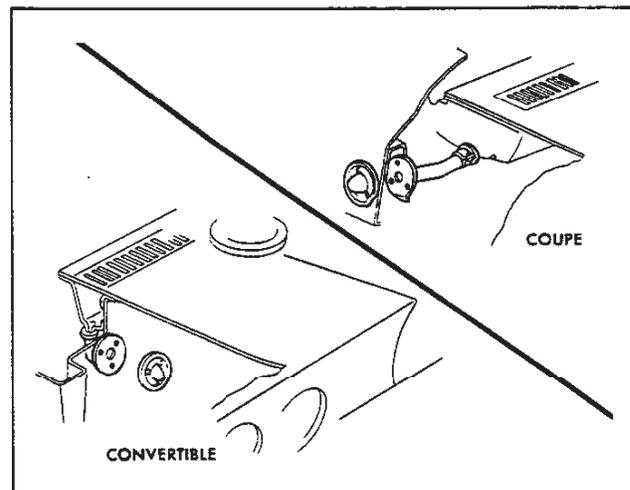

Fig. 42—Rear Plenum Drain
**REAR PLENUM DRAIN (Fig. 42)**